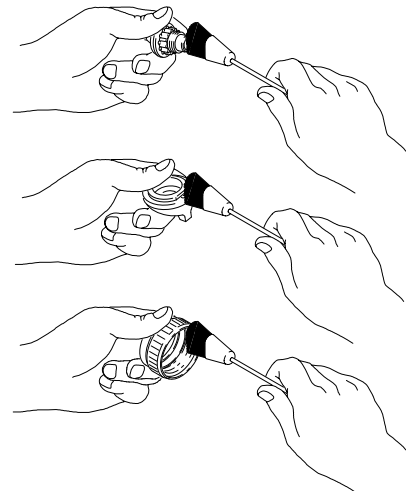

Fig. 27 02011
- F. Clean the air cap ring, air cap, and fluid nozzle daily, minimum, using a soft-bristle brush. See Fig. 27. Clean out air cap holes with a soft implement, such as a toothpick, to avoid damaging surfaces.